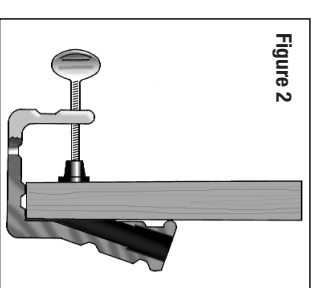

Figure 2
2. Center the work piece to be drilled in the jig and clamp tight using the thumb screw (see Figure 2).